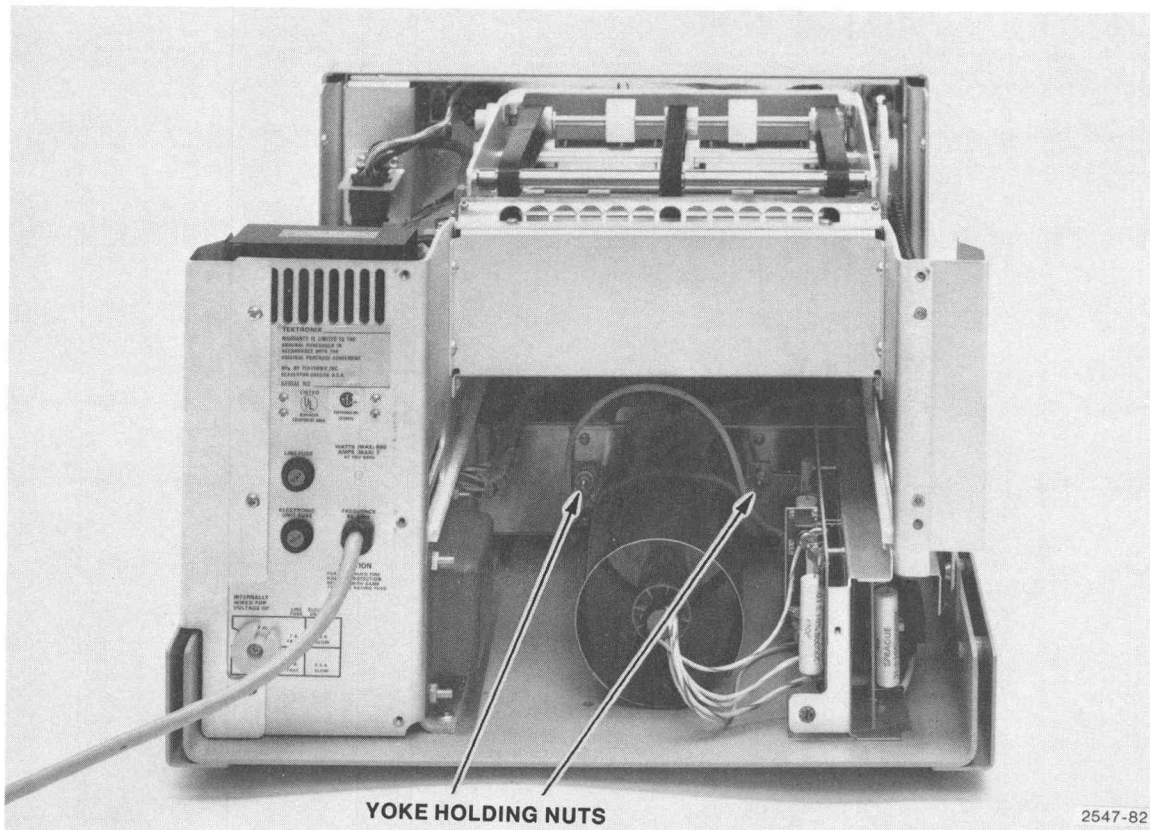

Figure 4-15. Yoke Holding Nuts.
1. Remove the cassette assembly that holds the paper cannister. Turn power off, and temporarily remove the Main board. With the Main board removed, the deflection yoke holding nuts are accessible (Figure 4-15). Loosen these nuts so that the yoke can be rotated; then re-insert the Main board.